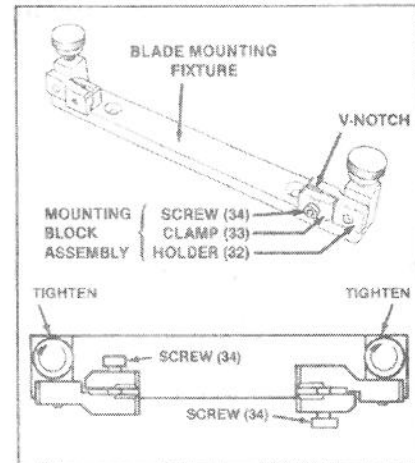

Figure 9. Install the mounting block assemblies on the blade mounting fixture.
To install blades you'll first have to mount the mounting block assemblies to the blade mounting fixture provided with the scroll saw. (See Figure 9.) Second you'll mount the blade in the mounting block assemblies. Then you'll install the blade and mounting block assemblies onto the scroll saw.
1. Install mounting block assemblies on blade mounting fixture. (See Figure 9.) Slip a mounting block assembly (32, 33, 34) onto the fixture locating pin, with the small V-notch in the mounting block assembly facing up. Press the mounting block assembly against the fixture post. Then tighten the fixture knob to lock the mounting block assembly in position.